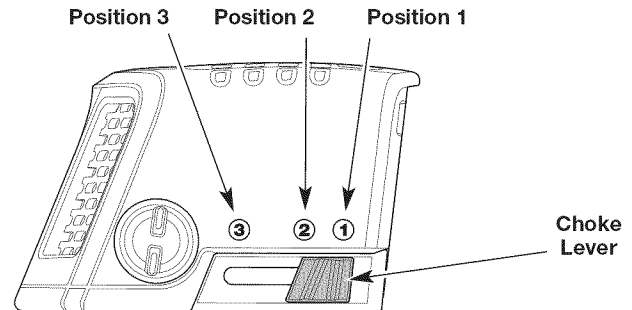

Fig. 10
4. Move the choke lever to **Position 1** (Fig. 10).
7. Continue to squeeze the throttle control. Move the choke lever to **Position 2** (Fig. 10).
10. Continue to squeeze the throttle control. Move the choke lever to **Position 3** (Fig. 10) and continue warming the engine for an additional 60 seconds. The unit may be used during this time.
IF... the engine hesitates, return the choke lever to **Position 2** (Fig. 10) and continue the warm-up.
8. Continue to squeeze the throttle control. Move the choke lever to **Position 2** (Fig. 10).
12. Continue to squeeze the throttle control. Move the choke lever to **Position 3** (Fig. 10) and continue warming the engine for an additional 60 seconds. The unit may be used during this time.